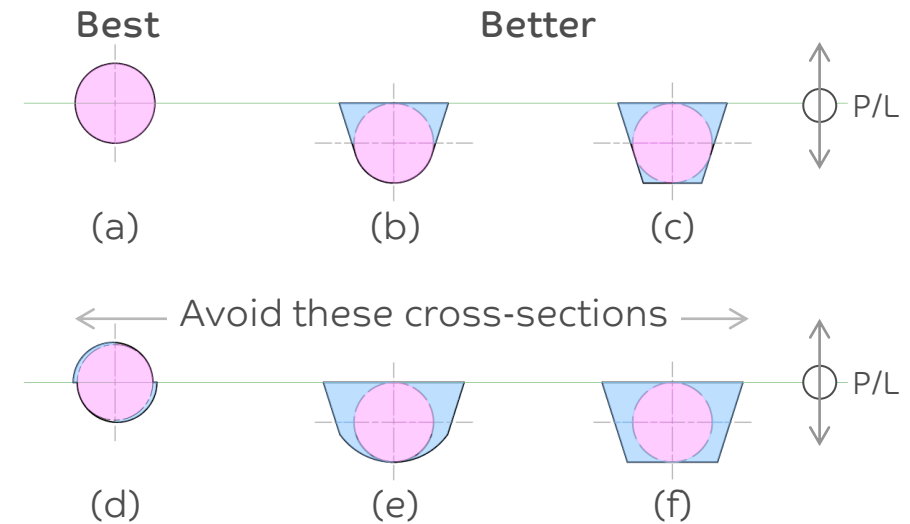

Fig. 2-6: Runner section
- Figure 2-6 shows examples of runner cross sections: